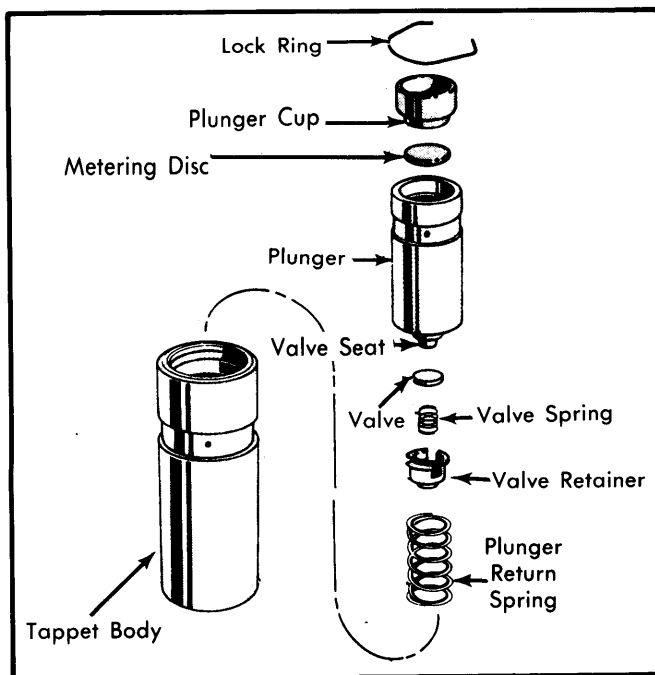

Fig. 2 Exploded View of Hydraulic Valve Lifter Assembly
2) Inspect lifter face for concave wear and if present, replace camshaft and lifters. If lifters are disassembled for cleaning or inspection, reassemble and test using suitable leakdown tester according to manufacturer's instructions. See Fig. 2.